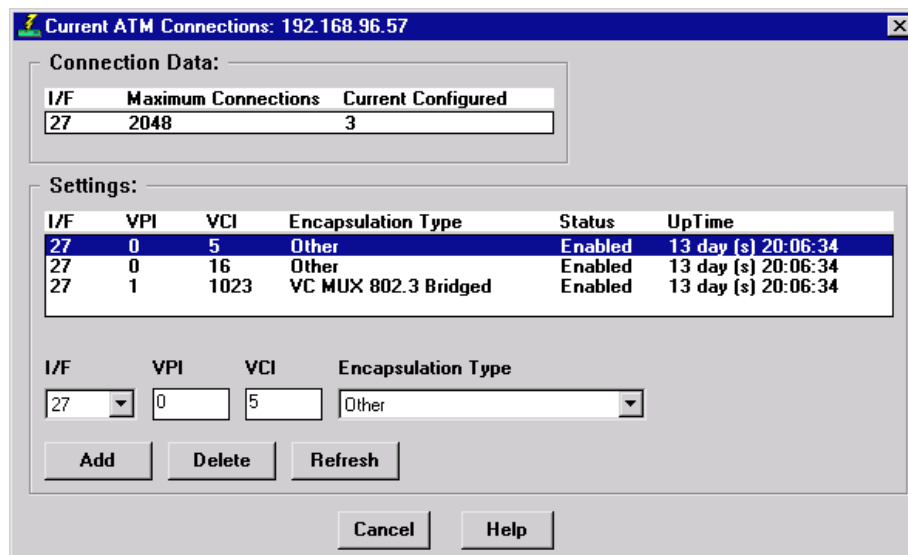

Figure 7-1. Current ATM Connections Window
2. Click on **ATM Connections**. The Current ATM Connections window, Figure 7-1, opens.